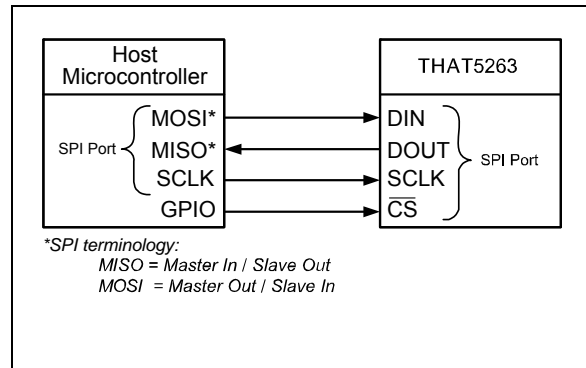

Figure 4. Single 5263 connected to a host computer
The SPI port consists of four signals: Chip Select (CS), Data In (DIN), Data Out (DOUT), and Serial Clock (SCLK). Figure 4 shows a single 5263 device connected to the SPI port of a typical host microcontroller. A command sequence is initiated when CS makes a high to low transition. Data is clocked into DIN on rising edges of SCLK, through an internal 32-bit shift register (16 bits per channel) which holds the 5263 configuration, and then out the DOUT pin on falling edges of SCLK. CS makes a low to high transition at the conclusion of a command sequence. The DOUT pin is tristated while CS is high so that multiple devices can be connected to a single SPI MISO port on a host processor.